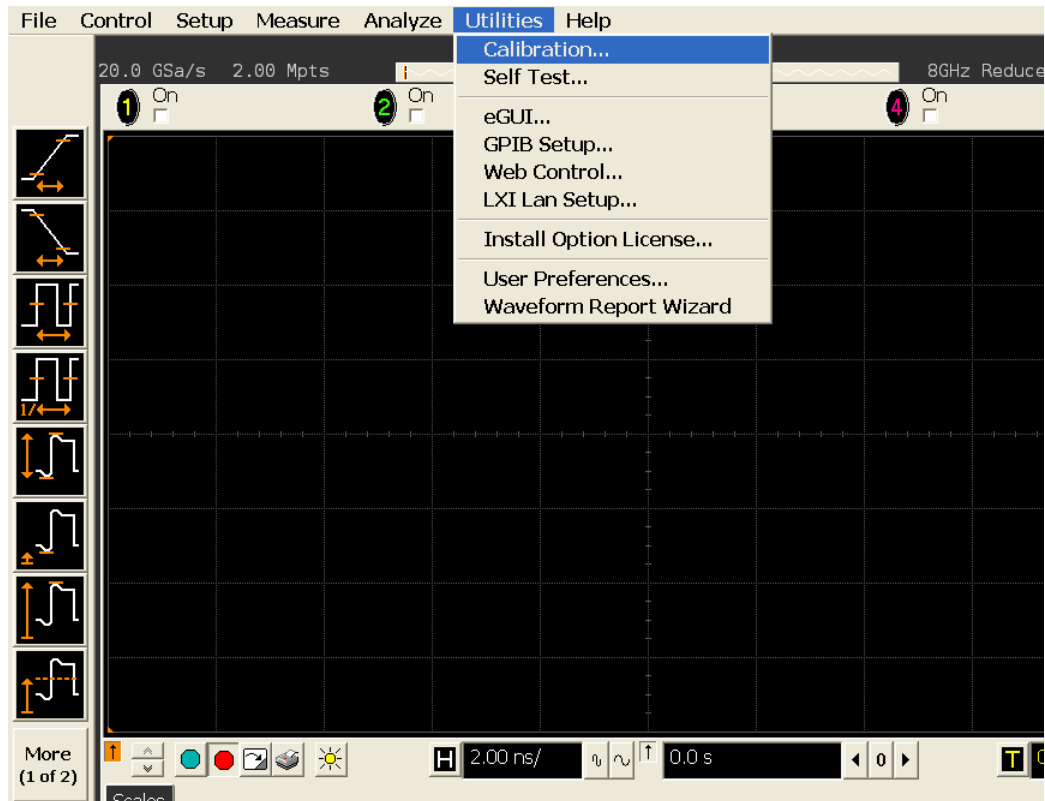

Figure 55 Accessing the Calibration Menu.
- 3 Referring to Figure 55 below, perform the following steps: